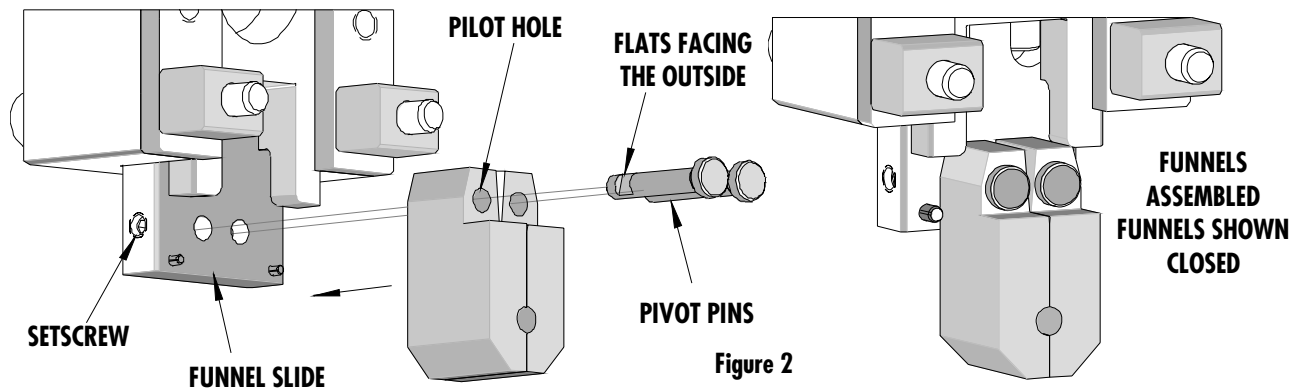

Figure 2
3. Using a 1.5mm hex wrench, tighten each setscrew holding the pins in place. See Figure 2. The funnel halves should open freely under spring pressure.